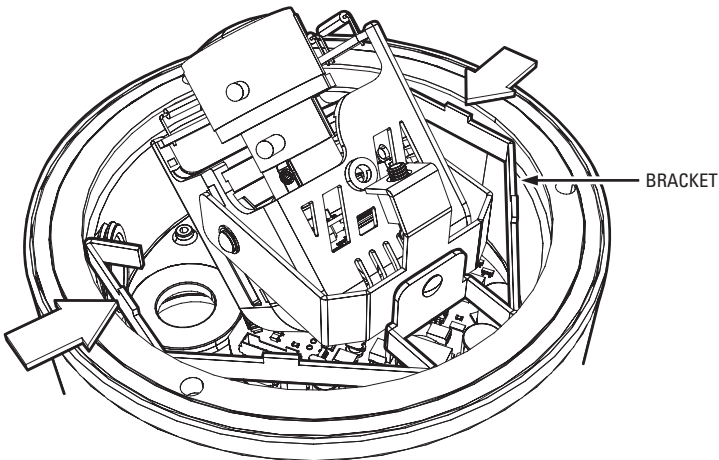

Figure 17. Camera Module Bracket
3. Gently squeeze the bracket, place it against the groove inside the back box, and then gently release (refer to Figure 17).